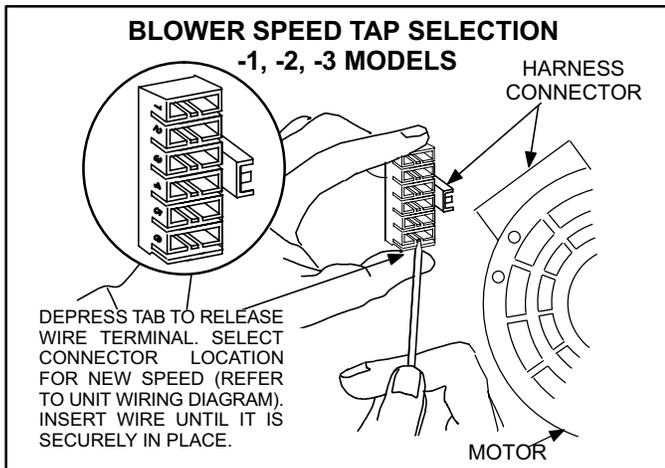

FIGURE 39
- 5 - Depress harness connector tab to release wire terminal. Select connector location for new speed (refer to unit wiring diagram). Insert wire terminal until it is securely in place. See figure 39.